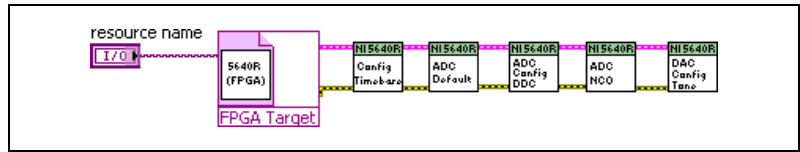

Figure 17. Host VI Block Diagram Connections
6. Connect the preceding VIs as shown in Figure 17.
Note Delete any existing VIs or data structures, such as loops, that do not appear in Figure 17 from the block diagram.